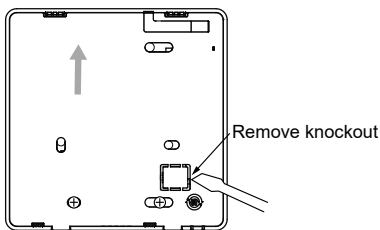

Figure 4.
- Remove plastic knockout from the backing plate (Figure 4).